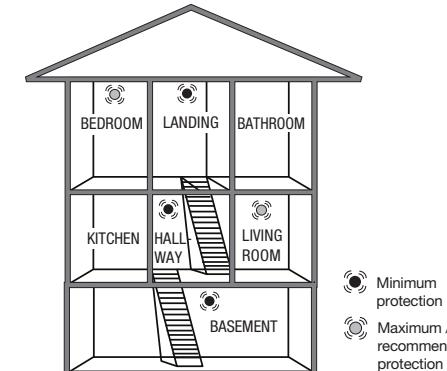

Figure 2. Multi-storey home
**Multi-storey home:** To achieve minimum protection, position and alarm in the stairwell (at ground level) and another alarm above the landing on the top floor, as well as an alarm on the ceiling in the basement at the foot of the stairs. This covers the basement level, but not crawl spaces and unfurnished attics. See the example in Figure 2.